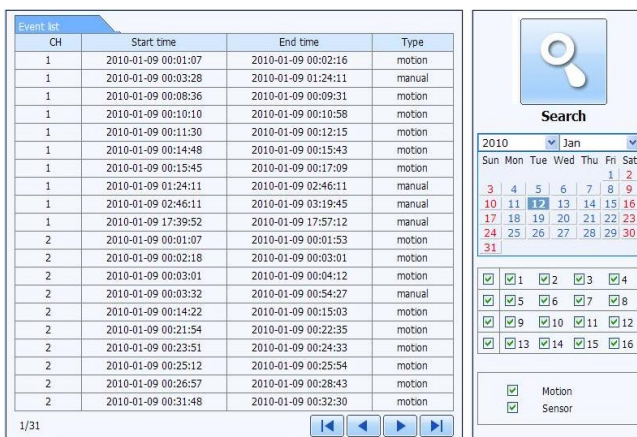

Fig 7-6 Event Search Interface
- ① Go to Search→Event Search interface. Refer to Fig 7-6.